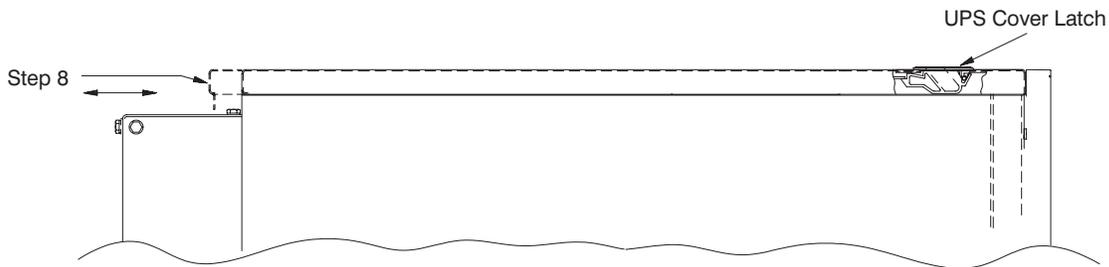

Figure 11. Removing the Top Cover from the UPS Cabinet
9. Open the top cover of the UPS cabinet by sliding the cover latch forward and lift up as shown in Figure 11.